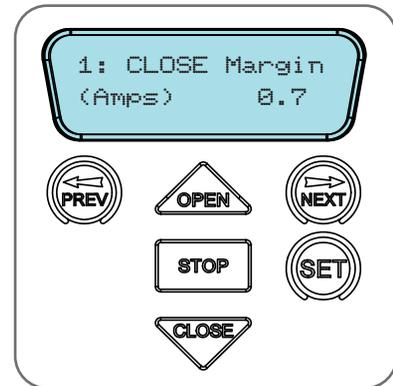

Fig 12.2
- MENU 2.1: CLOSE Margin is displayed (**Fig. 12.2**).